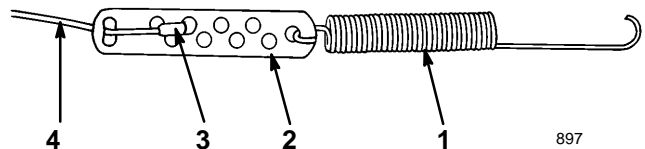

Figure 11
- Hook the spring to the round hole at the end of the cable adjuster (Fig. 11).
- Secure the end of the cable to the cable adjuster as illustrated in Figure 11.